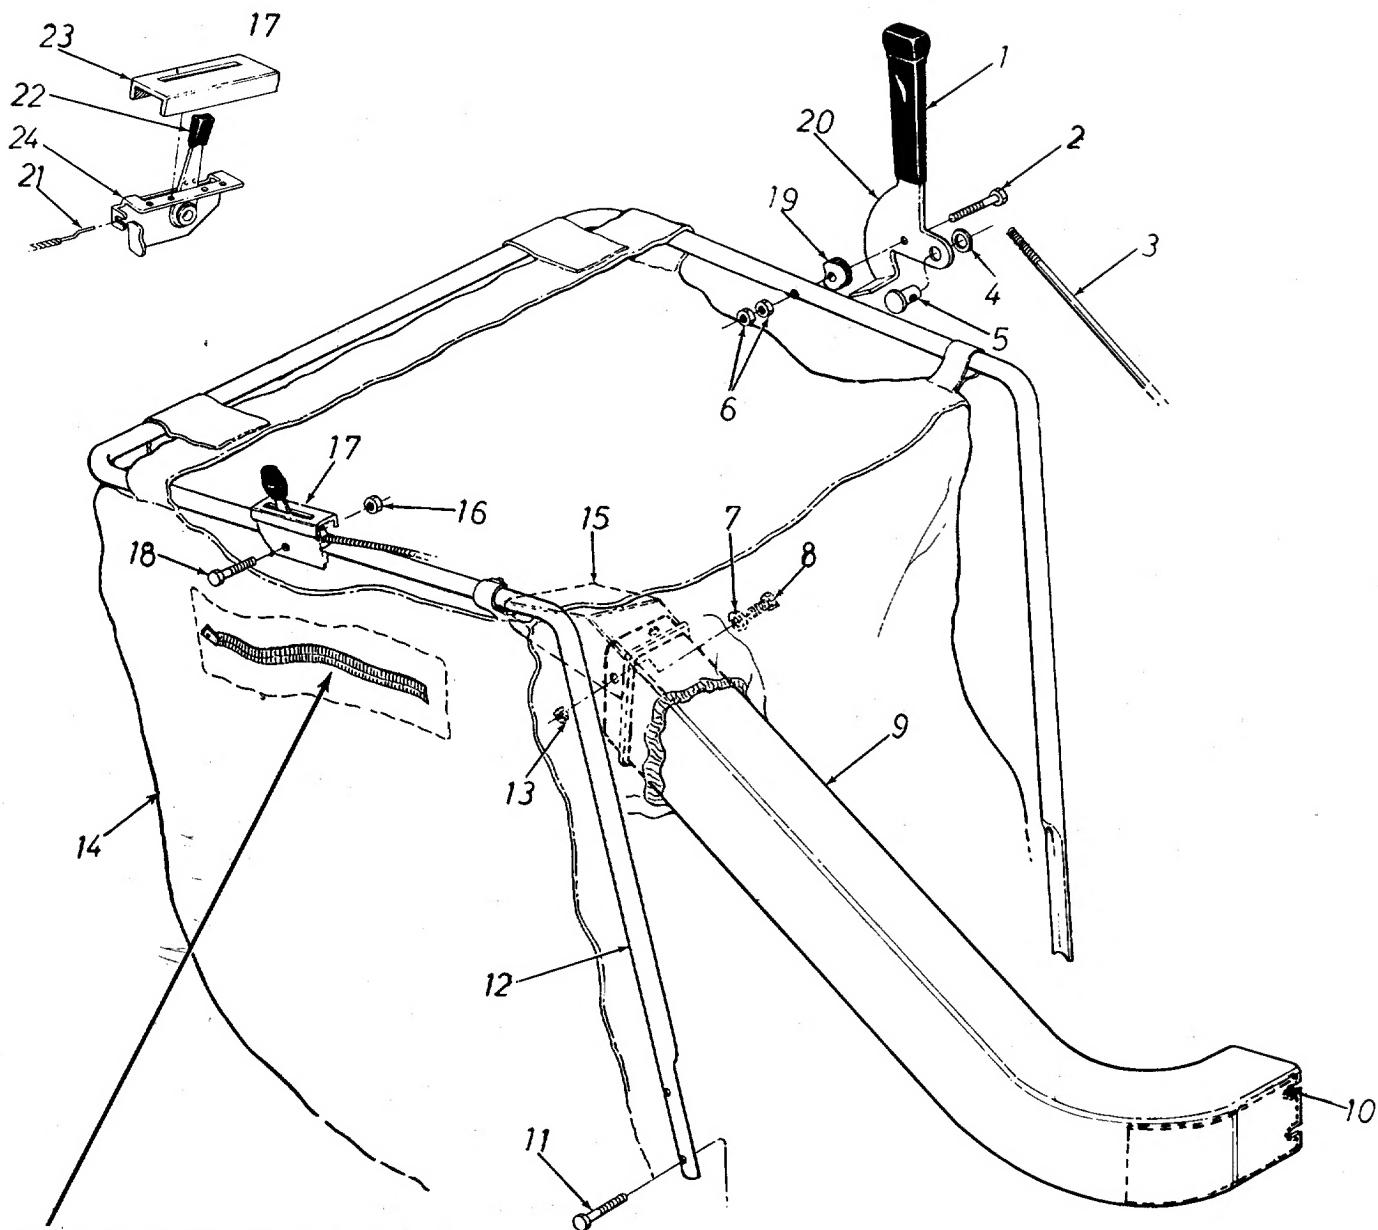

FIGURE 1. EXPLODED VIEW OF UPPER HANDLE
(Refer to figures 1, 2 and 3)
1. Place the upper handle in position and fasten with four (4) hex screws and hex centerlock nuts provided.
2. Place the air duct liner in the elbow of the air duct and fasten in position as you assemble the air duct in step 3. (See figure 1.)
3. Place the air duct in position on the blower housing and fasten with four (4) flat washers and hex nuts provided.
5. Fasten the deflector on the top of the air duct with three hex screws, flat washers and hex nuts. (See figure 1.)